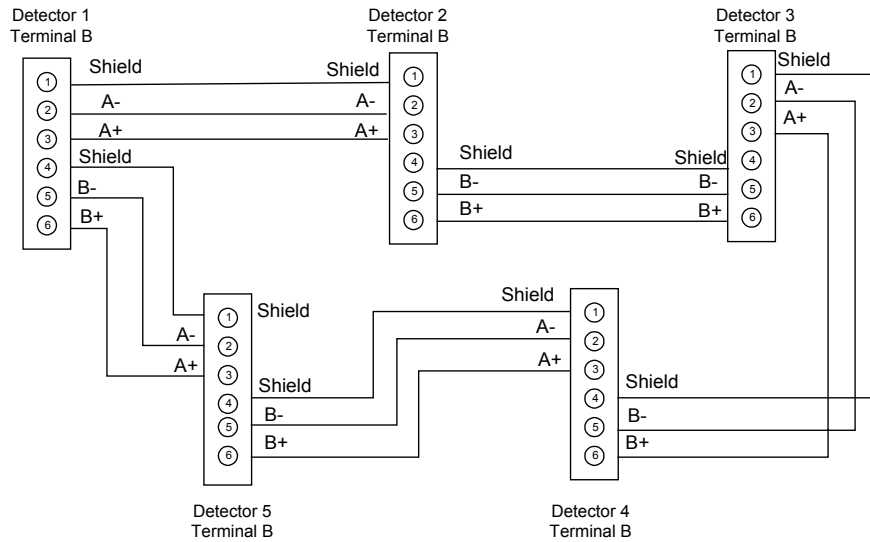

Figure 11 Wire Connection Details for VESDAnet
- Connect the VESDAnet wires as shown in Figure 11. This diagram is only an example for five detectors. This wiring method is similar for two or more detectors.